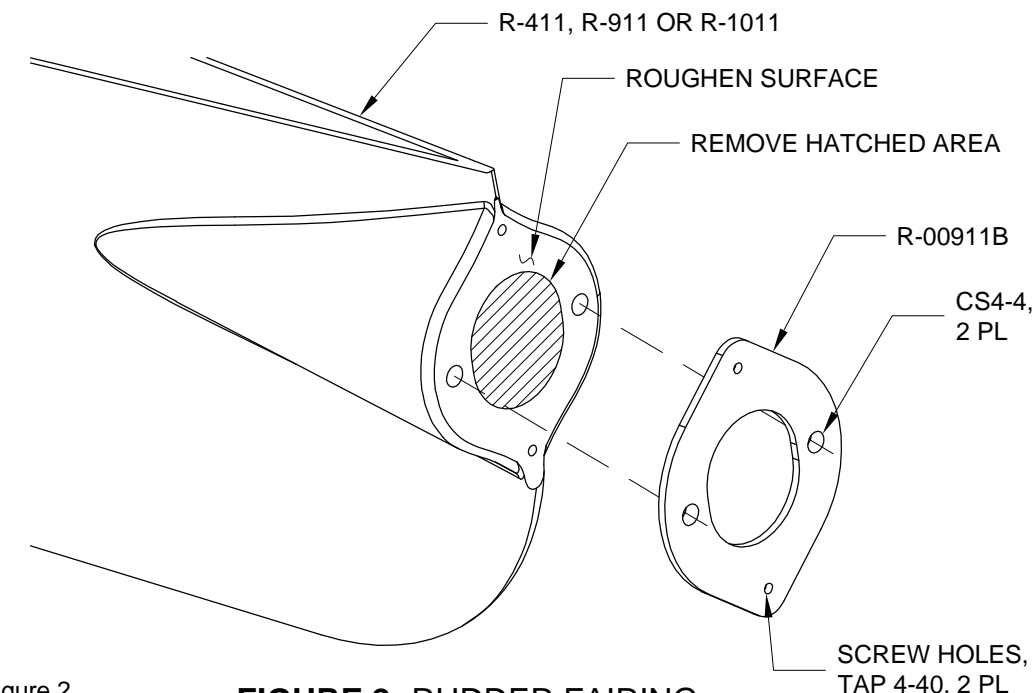

FIGURE 2: RUDDER FAIRING DOUBLER INSTALLATION
Step 6: Remove the hatched area of the R-411, R-911 or R-1011 Rudder Bottom Fairing as shown in Figure 2. Drill several holes around the inside of the traced line, but stop short of the line traced in Step 1. Finish removing the material up to the traced line with sandpaper wrapped around a round object.
Step 10: Rivet the R-00911B Rudder Fairing Doubler to the R-411, R-911 or R-1011 Rudder Bottom Fairing as shown in Figure 2. There should be just enough of the epoxy resin and floc mixture between the parts to come up to, or just beyond the adjacent edges of the parts. Sand these edges to a smooth finish after curing.
Step 12: Tap 4-40 the screw holes indicated in Figure 2.